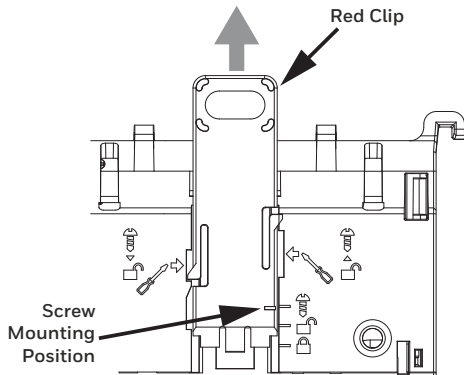

Fig. 9 Screw Mounting Position
1. Extend all red clips to the screw mounting position by inserting the flat blade screwdriver at a marked location and move up the nod from the lower slot to the upper slot as shown in figure 9.